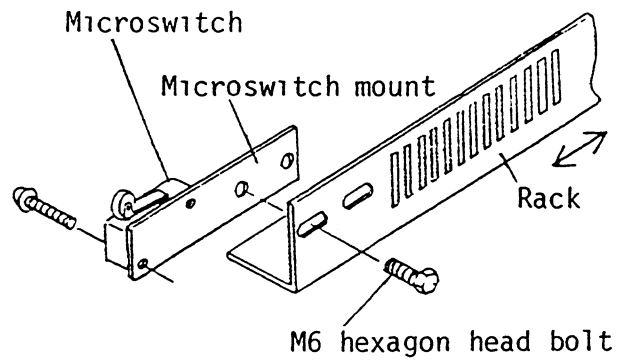

Fig.7
- * When the processor front cover is open and the master feed length is set to 48 cm, the parts as shown in Fig.7 are seen.